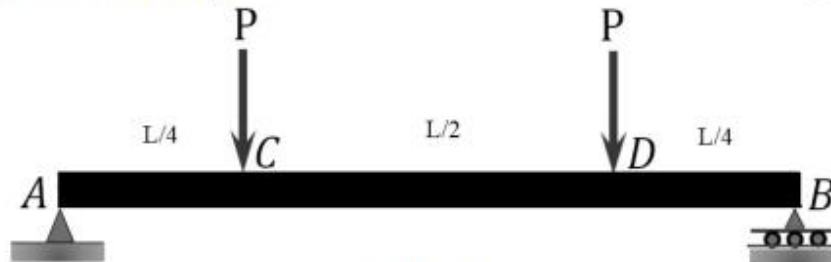

Figure: 2
- 4.a) Determine the slope at supports and deflection at points D and C by Conjugate beam method shown in Figure 2.